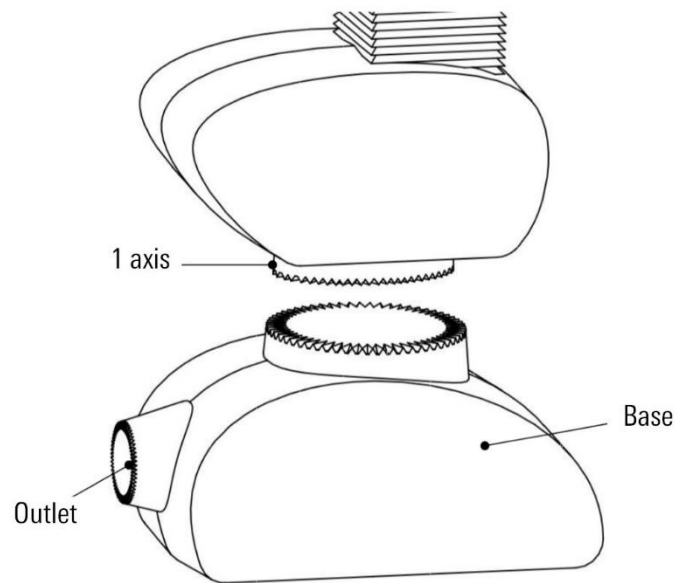

Figure 2-4 Diagram of step 4
Step3. When installing the base, open the opening and wrap it from the front to the rear. Note that the base cable must pass through the outlet. Refer to Figure 2-4.